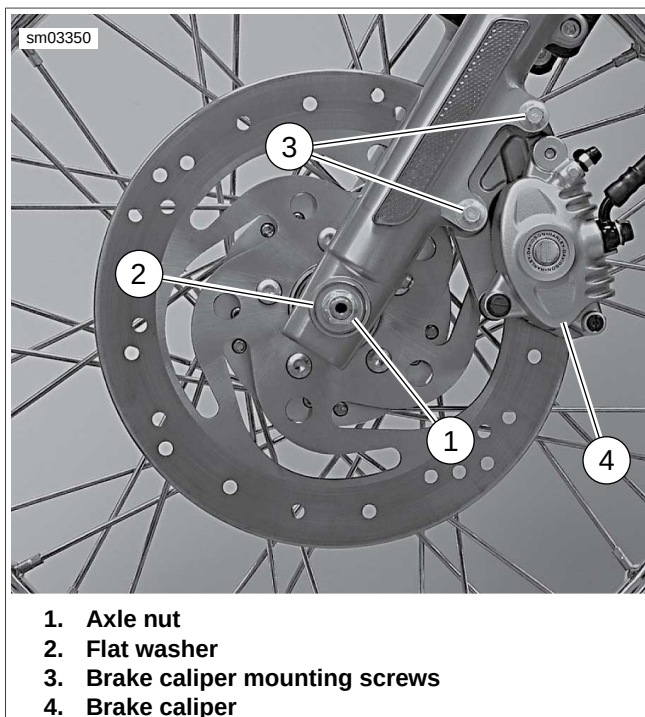

Figure 2-5. Left Side Front Wheel Mounting: (Laced Front Wheel Shown)
3. See Figure 2-5. Remove brake caliper mounting screws (3). Slide caliper (4) off brake disc and secure caliper out of the way.
5. See Figure 2-5. Install flat washer (2) and axle nut (1) over threaded end of axle. Insert screwdriver or steel rod through hole in axle on right side of vehicle. While holding axle stationary, tighten axle nut to 60-65 ft-lbs (81-88 Nm).